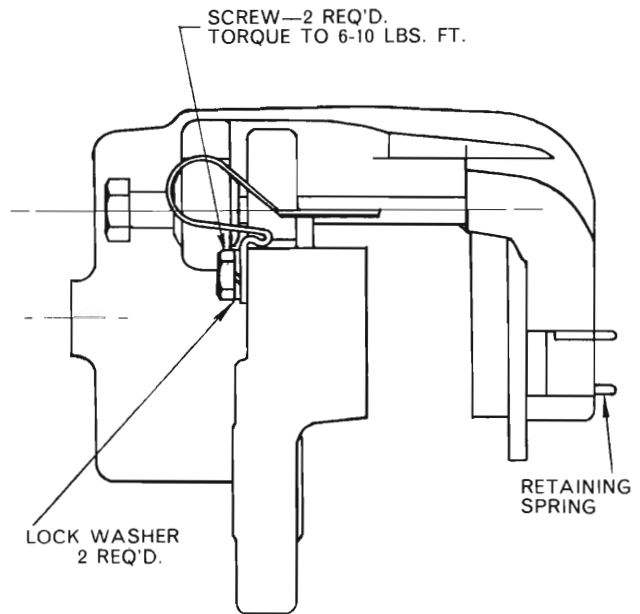

Fig. 8 - Caliper shoe anti-rattle spring diagram
- (4) Remove inner pad clip screws and slide pad out of anchor plate. (Refer Fig. 8).